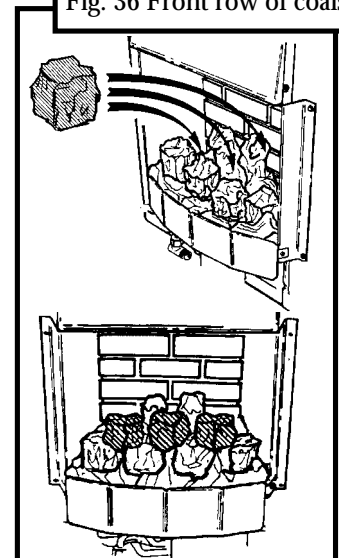

Fig. 37 Middle row of coals
**4.2** Place the three remaining medium size coals behind and approximately midway between each of the coals in the front row (See figure 37).